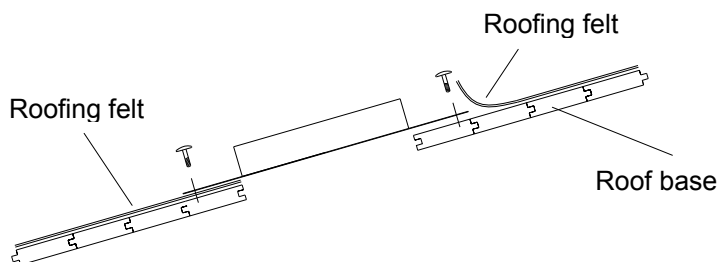

Fig. 4
3. Fix the TUB to the roof base with nails or screws, fig. 4.